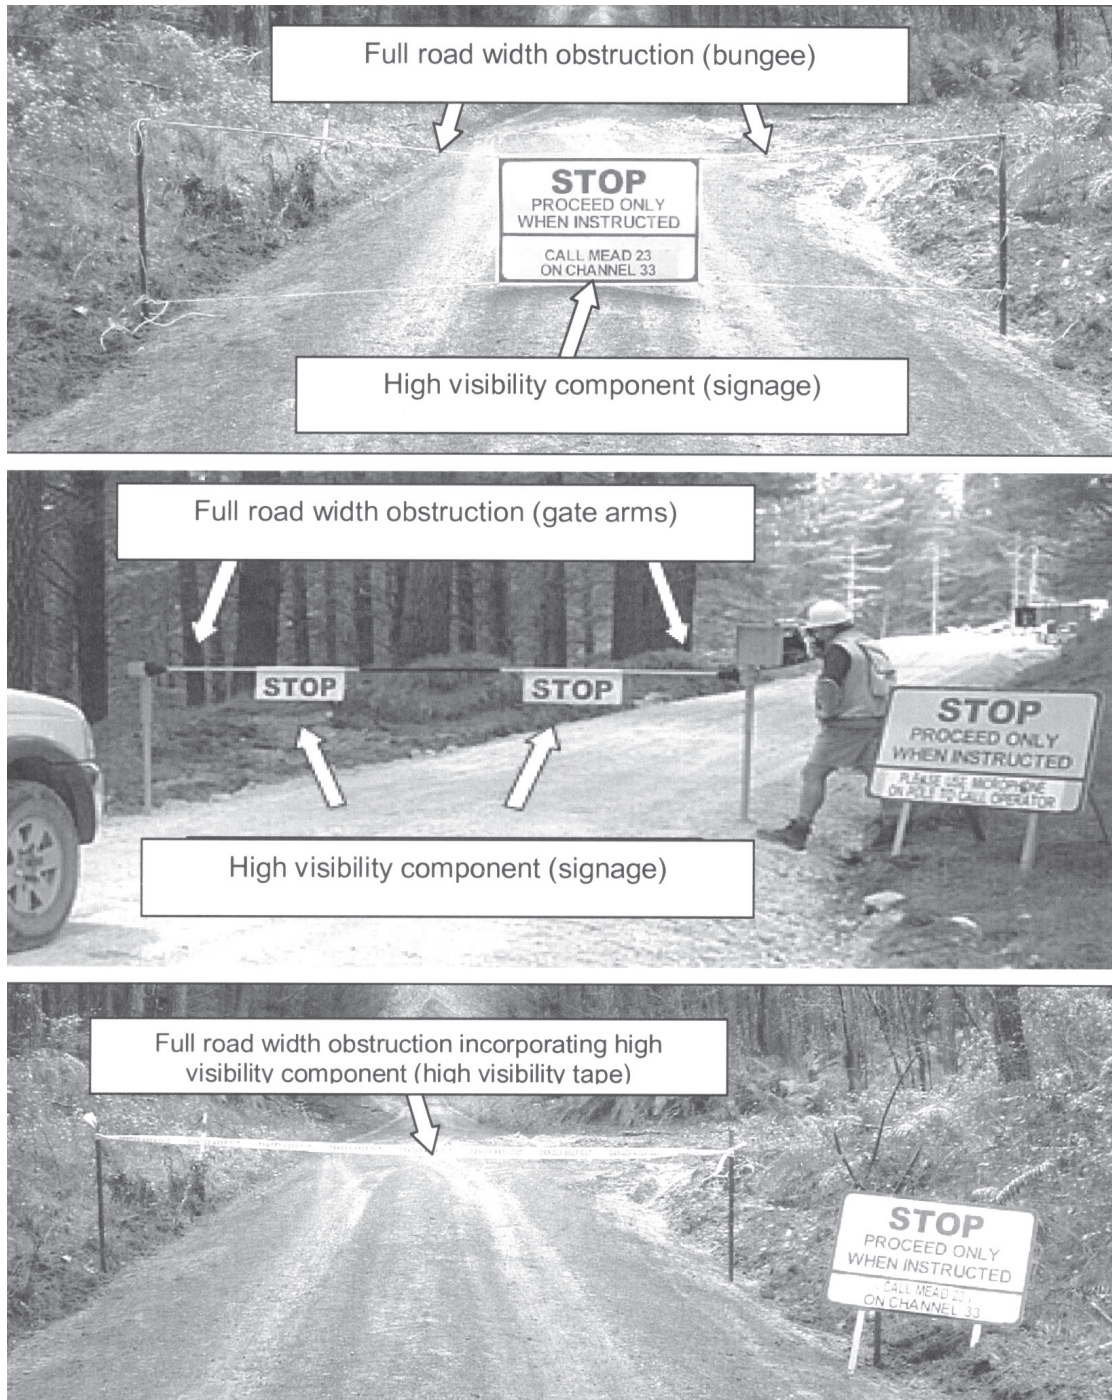

Figure 2 – Three examples of unmanned temporary road closures showing full road-width obstruction and high visibility components.
- The obstruction must include a high visibility component contained within the vehicle carriageway. This component may comprise signage, banner or tape incorporating high visibility colours (Figure 2).